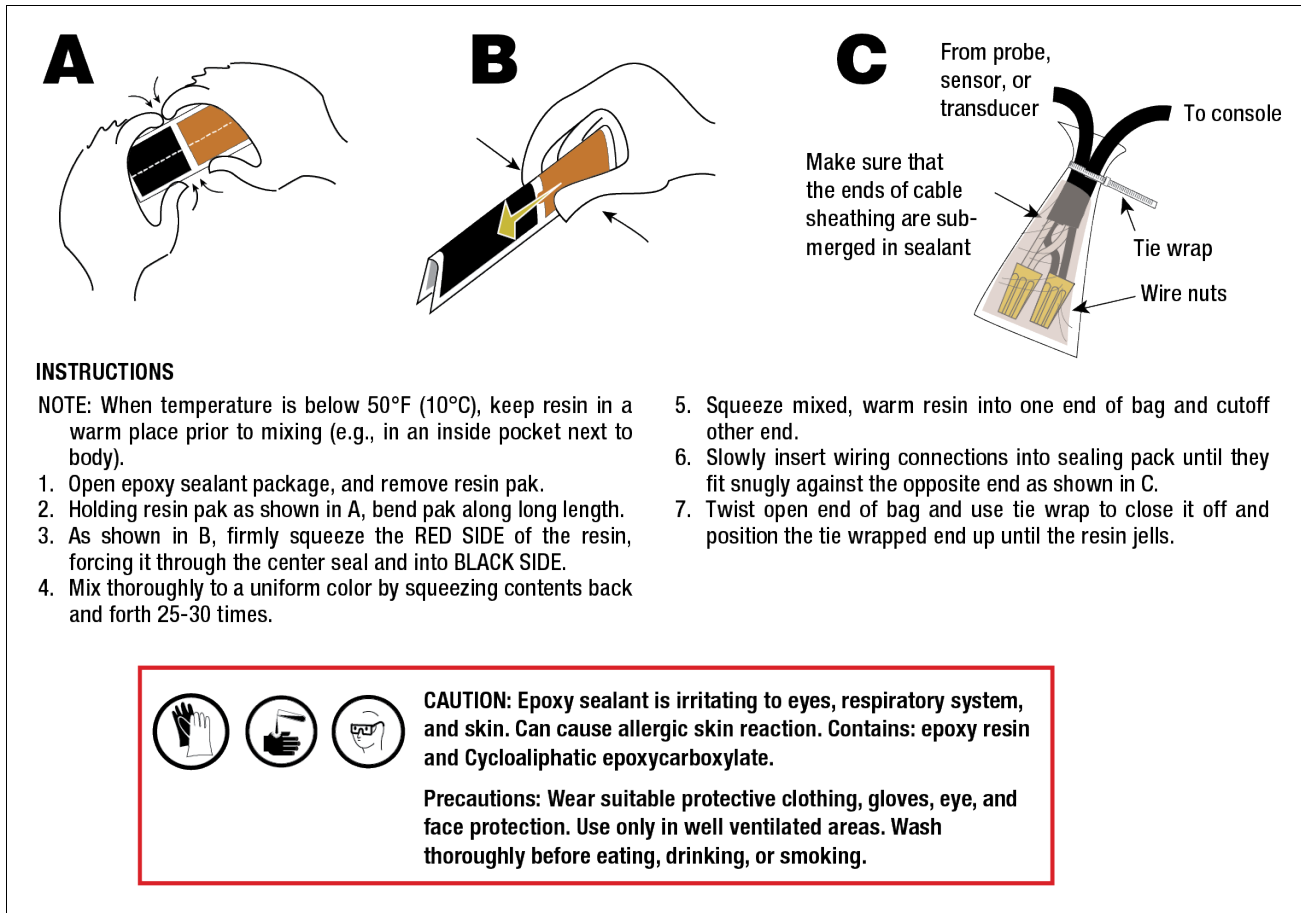

Figure 18. Epoxy Sealing Pressure Transducer Field Connections
3. Seal wire nut connections using the epoxy sealant furnished with each transducer. Use one packet for no more than two wire nut connections. **Ensure the end of the cable jacket is submerged in the epoxy.** Refer to Figure 18 as you prepare epoxy and seal connections.